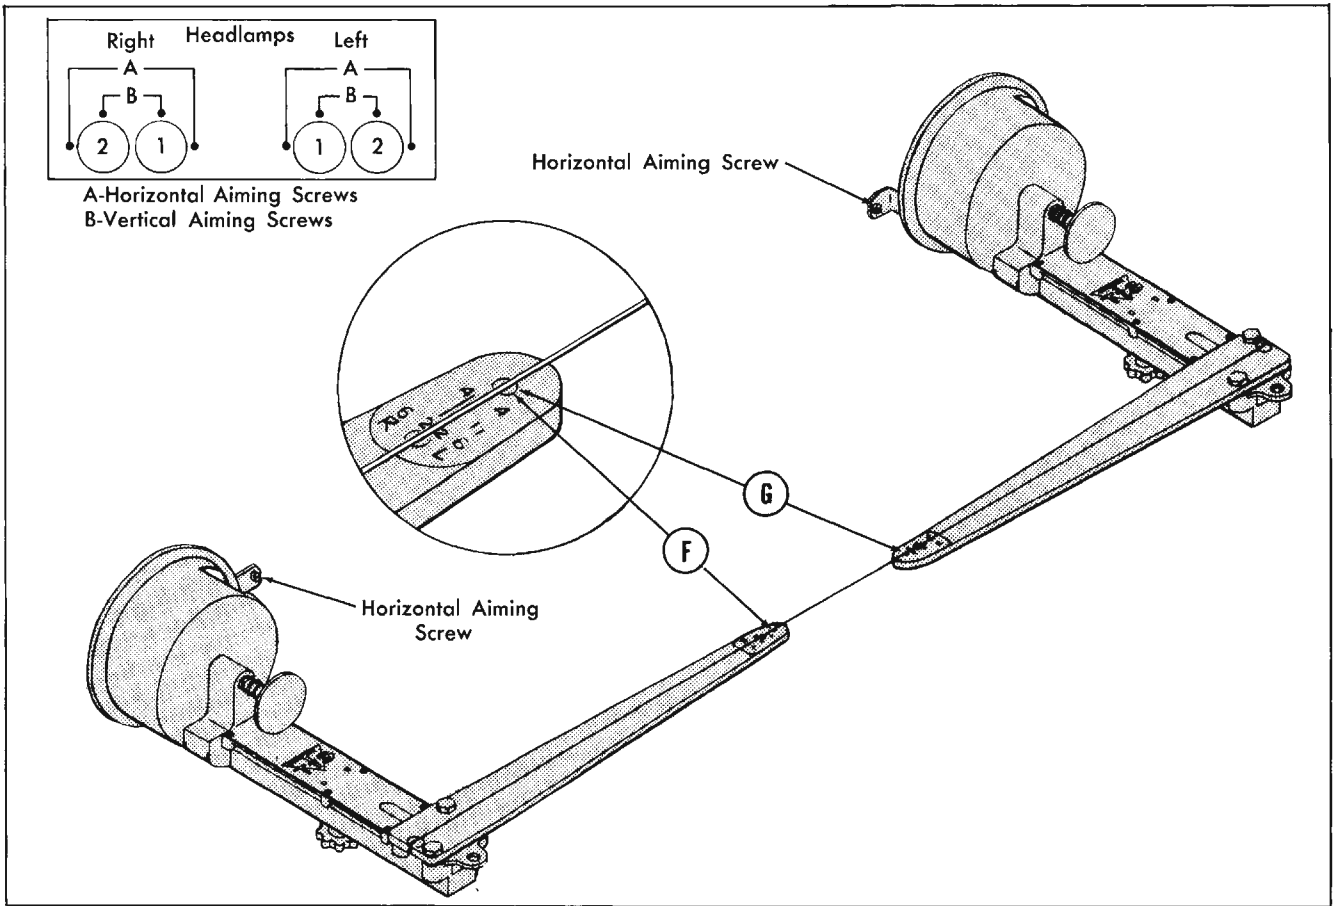

Fig. 14-66 Horizontal Aim
4. Fasten string to R.H. aimer. Rotate aimers until string just clears "F" and "G". (Fig. 14-66)